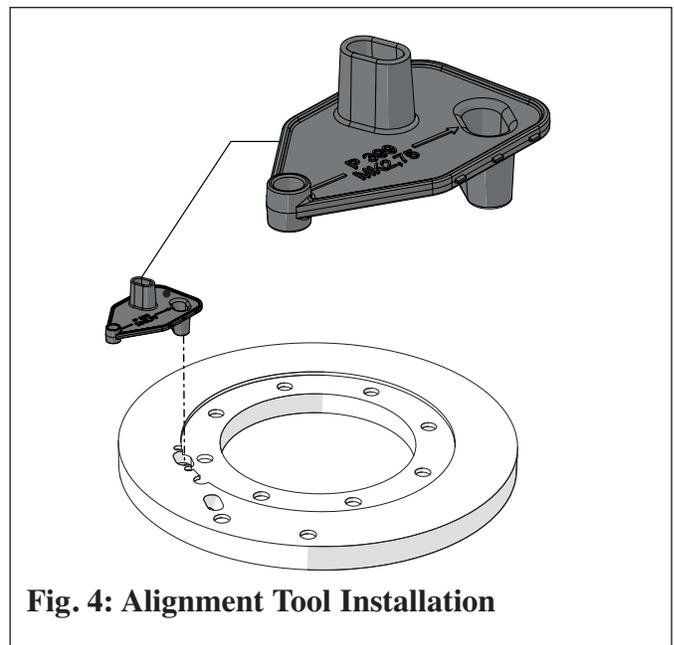

Fig. 4: Alignment Tool Installation
- Insert the alignment tool into the igniter opening as shown in Fig. 4.